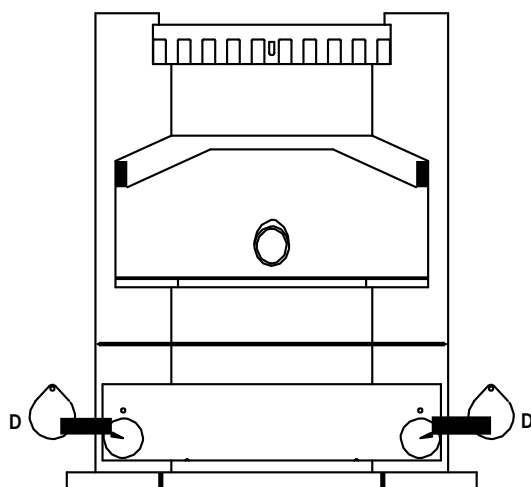

Figure 46A
There are also two more access holes located behind the ash drawer. Remove the ash drawer (see previous page) and loosen the two 5/16" screws with a 1/2" socket or wrench, the screws are shown as D in *Figure 46A and 46B on Page 24*. Rotate the covers over the access holes and use a brush and vacuum to clean the ash. Rotate the covers back over the holes and tighten the screws.
6. Remove the ash drawer (see *Figures 44*) to locate the lower left and right tear drop shaped flue passageways (see D in *Figures 46A and 46B*).